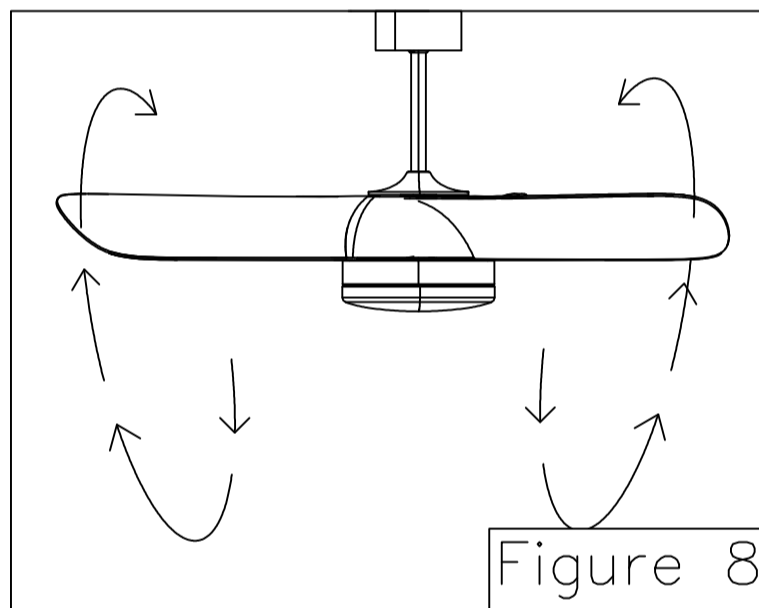

Figure 8
- Cool weather – (Reverse) An upward airflow moves warm air off the ceiling area as shown in. (Figure 8) This allows you to set your heating unit on a lower setting without affecting your comfort.